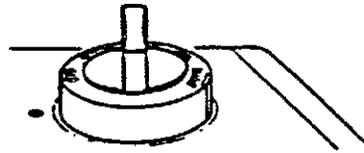

Figure 9
3. Push in gas control knob slightly and turn clockwise to "OFF" (Figure 9)